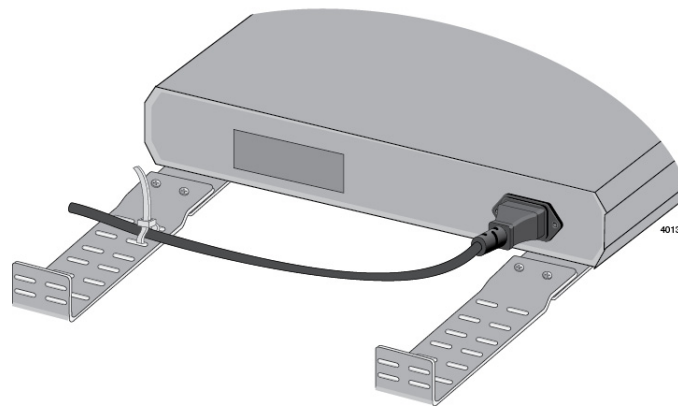

Figure 27. Securing the Power Cord Using Tie-wraps
5. If the switch is installed in a rack, use the tie-warps provided to secure the power cord, as shown in Figure 27.